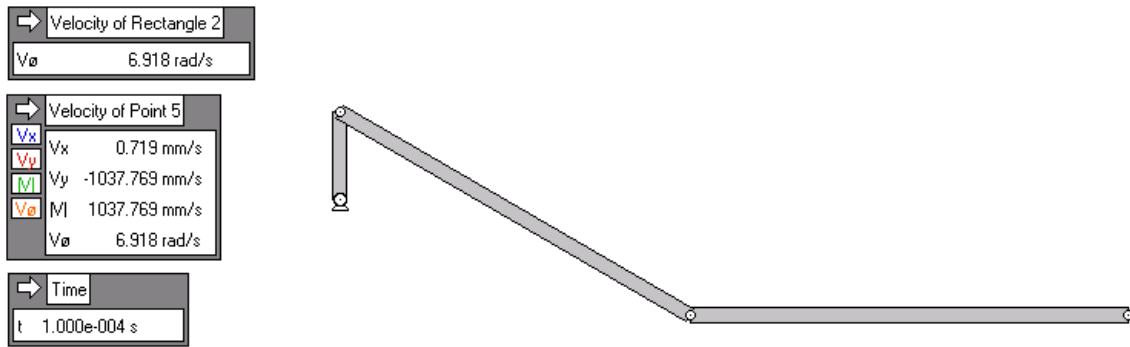

Figure 9
6. Click on the Run button to get the results similar to the Figure 9.